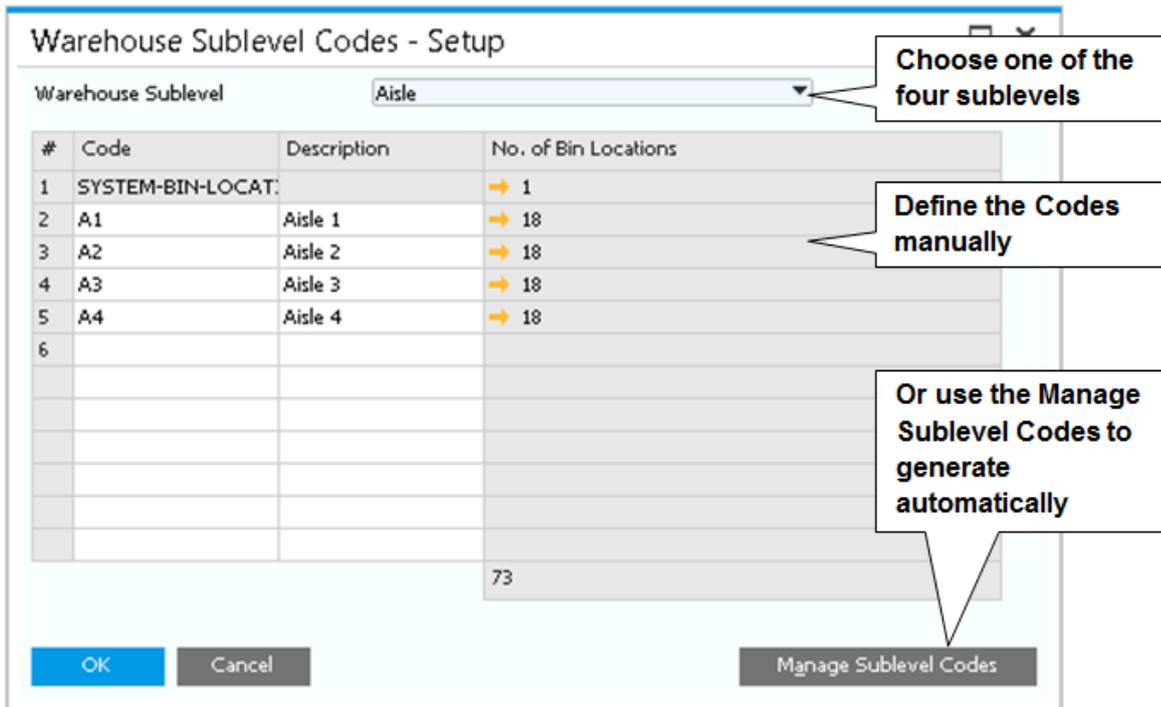

Figure 12-6: Warehouse Sublevel Codes
- Next you need to define any Warehouse Sublevels Codes to name the sublevels that you've chosen to use and set up how you want to organize your bins. For each sublevel you activated you need to identify the details that match your warehouse. For example, if you define Area as a sublevel, define the different areas in your warehouse, such as area 1, area 2 etc. as shown in figure 12-6.